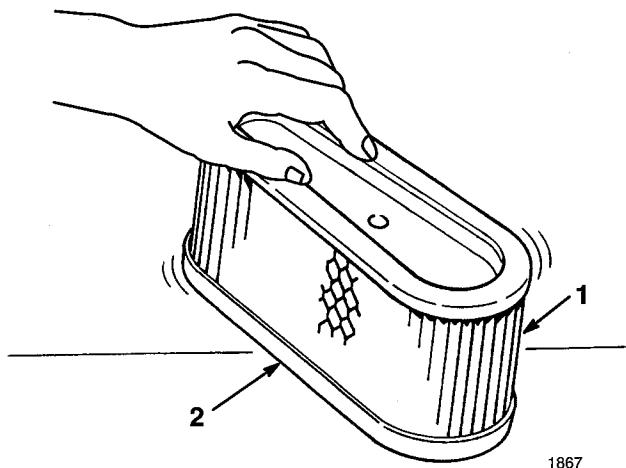

Figure 27
- A. Lightly tap the element on a flat surface to remove dust and dirt (Fig. 27).